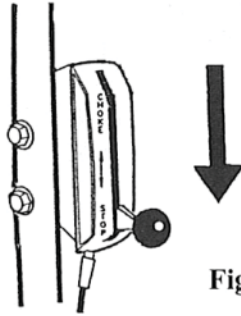

Figure 12
1. Push the throttle control to (*stop*) position to shut off the engine. (Fig 12)